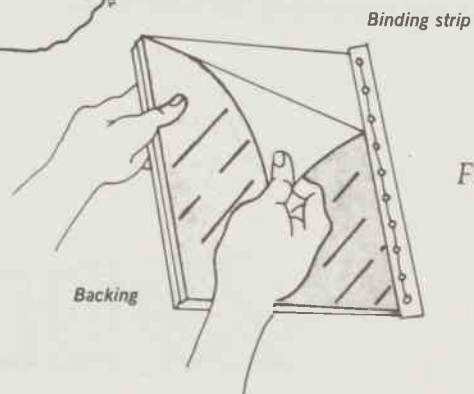

Figure 17.
- i. Peel away the backing from the pressure-sensitive sheet at the end of the page set. Carefully cut away the backing using the binding strip as your anchor (Figure 17).